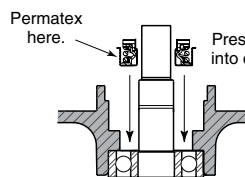

Figure 3
1. Apply Permatex #2 sparingly to outside of the primary seal head. Press new primary seal head into cavity in seal plate. See Figure 3.